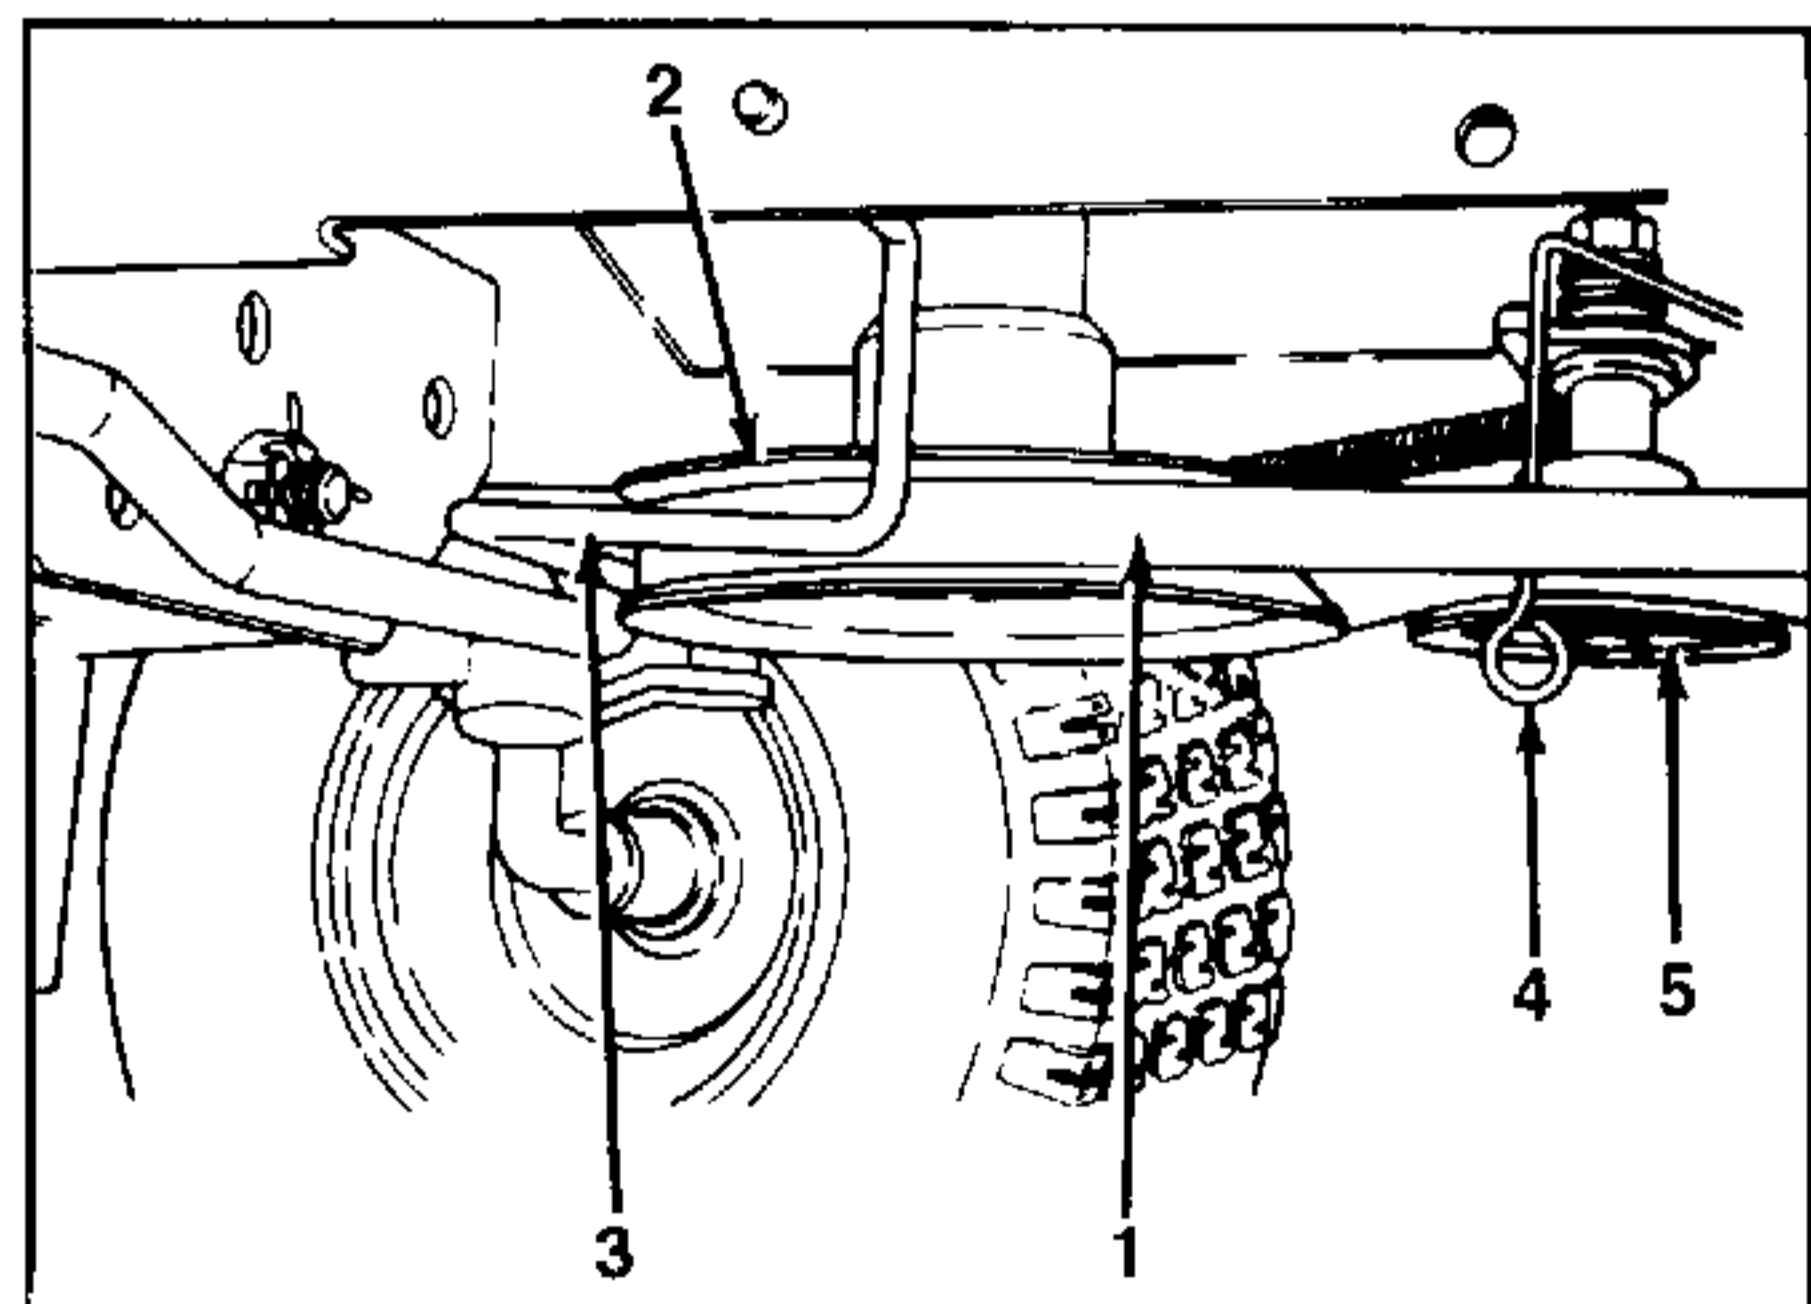

FIGURE 10.
10. With the PTO engagement lever in the "OFF" position, install the PTO drive belt while working from the left side of the tractor. Push the engine drive pulley belt guard upward and toward the front of the tractor to allow the belt to be installed on the engine drive pulley. Refer to figure 10.
11. To install the PTO drive belt to the idler pulley, pull the loop on the idler pulley belt guard away from the idler pulley. Slide the belt onto the idler pulley and release the idler pulley belt guard. Refer to figure 10.